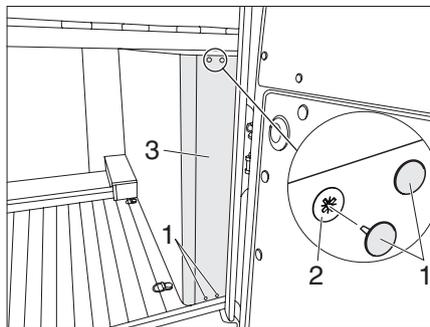

Fig. 113 Cover in the vehicle rear
The cover (Fig. 113,3) has to be removed beforehand to access the rear right-hand vehicle lamps.
- ▶ Remove the four screw covers (Fig. 113,1).
- ▶ Unscrew the four crosshead screws (Fig. 113,2).
- ▶ Remove the cover (Fig. 113,3). The vehicle lamps can be accessed now.